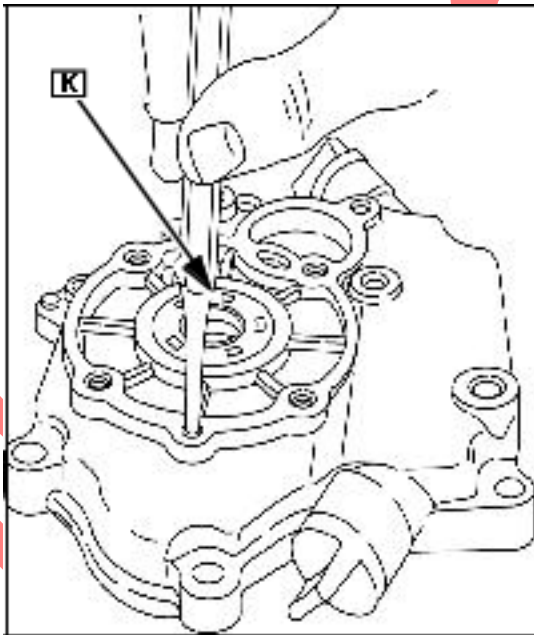

Fig. 17
Press governor gear shaft (K) out of cylinder cover from outside, Fig. 17.